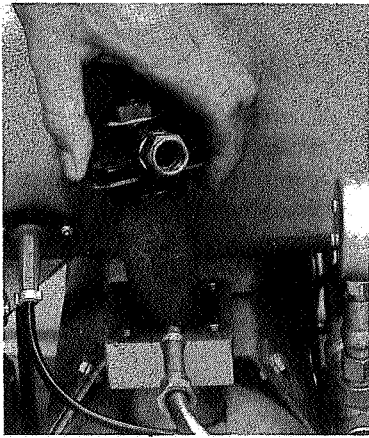

FIG. 17
2. At this stage it is important to establish that the preheater is full of oil. It is vitally important since the oil preheater tank may have been drained of oil at the Factory after testing so as to comply with shipping conditions under the heading "Hazardous Cargo". This operation can be carried out by removing the filter/thermometer block. (Fig. 17)